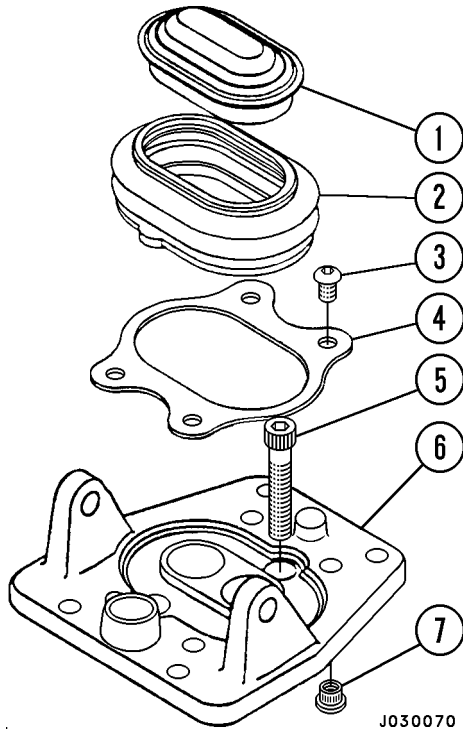

FIGURE 3-4. ACTUATOR CAP & BOOT
6. Remove four button head allen screws (3, Figure 3-4) that secure boot retainer plate (4).
7. Remove boot retainer plate (4), boot (2), and actuator cap (1) as an assembly by grasping the boot and gently lifting it from the valve body.
9. Remove and discard O-ring (22) and face seals (23).
10. Loosen the locknuts on actuator plunger (2). Loosen the socket head capscrew from adjustment collars (1).
12. Remove two socket head capscrews (5, Figure 3-4) that retain actuator base (6) to the valve body.
3. Place regulator spool (8) into its sleeve (14). Push the spool lightly through the sleeve. The spool must be able to move freely and smoothly the entire length of the sleeve. If it cannot, it must be replaced. Never replace just the spool or sleeve. They must be replaced as a matched set.
5. Inspect threaded inserts (7, Figure 3-4) in actuator base (6). If any of the threads are damaged, the inserts must be replaced.
1. If any threaded inserts (7, Figure 3-4) were removed from actuator base (6), position the actuator base upside down on the work bench and support it directly under each of the four mounting holes.
1. Examine boot (2, Figure 3-4) for any cracks, tears, or other damage. If damage is evident, the boot must be replaced.
2. If damaged, remove the boot from actuator cap (1) and discard the old boot. Thoroughly clean the sides of the cap by using a knife or suitable scraper to scrape the lip where the cap contacts the boot. Clean the cap thoroughly to remove all adhesive or particles of the old boot.